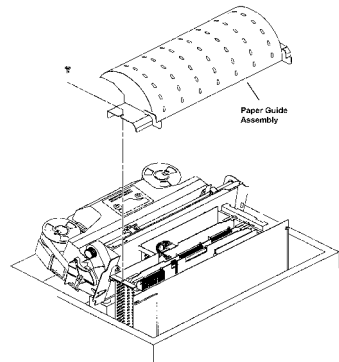

Figure 6 Paper guide removal
- 3** Lift slightly the right end and slide the Paper Guide Assembly to the left. Lift the paper guide assembly off the card cage. (See **Figure 6**)